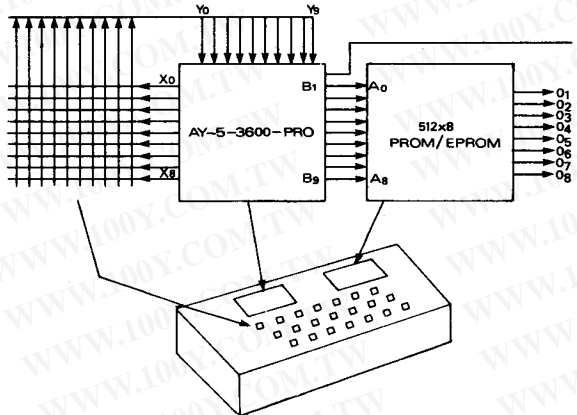

Fig.9 90 KEY 4 MODE KEYBOARD APPLICATION
Expansion to a 90 key 4 mode operation (see Fig. 9) is identical to the 64 key 4 mode except: the 90 key 4 mode version utilizes the full complement of addresses X0 Y0 thru X8 Y9 (90 keys). The 8-bit binary code (B2-B9) previously produced to address the 256 x 8 PROM/EPROM is now expanded to a 9-bit binary code (B1-B9) for addressing to a 512 x 8 PROM/EPROM. With expansion to a 90 key 4 mode application outputs B1-B3 now serve as the variable mode identification.